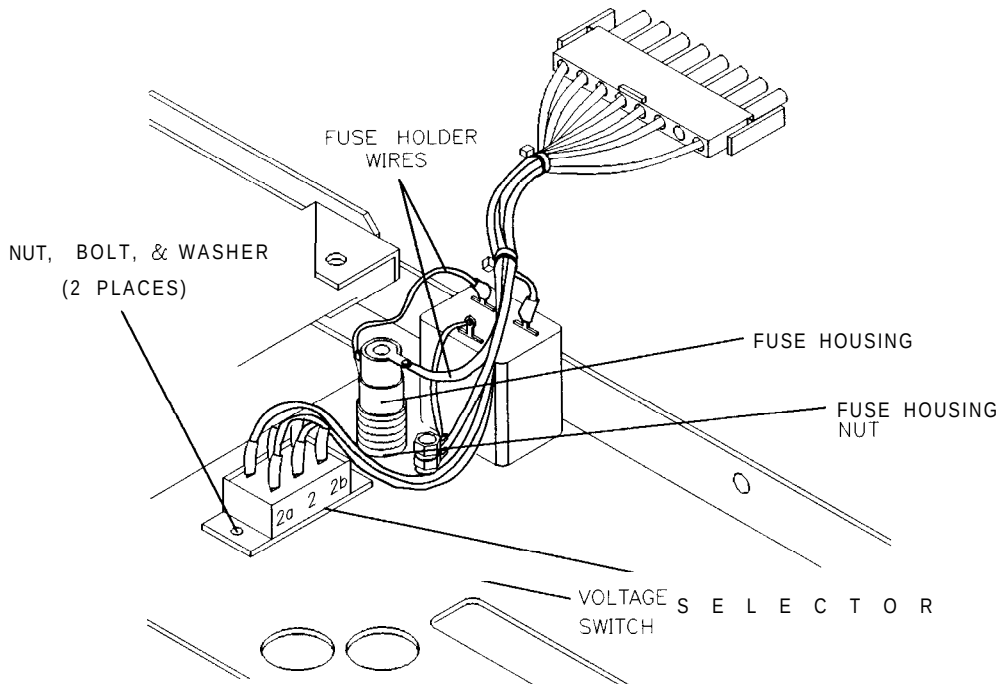

Figure 7-18. Rear Panel Fuse Housing
1. Remove the two nuts, bolts, and washers holding the voltage selector switch, and remove the switch (this provides clearance for the wrench to remove the fuse holder). Refer to Figure 7-18.